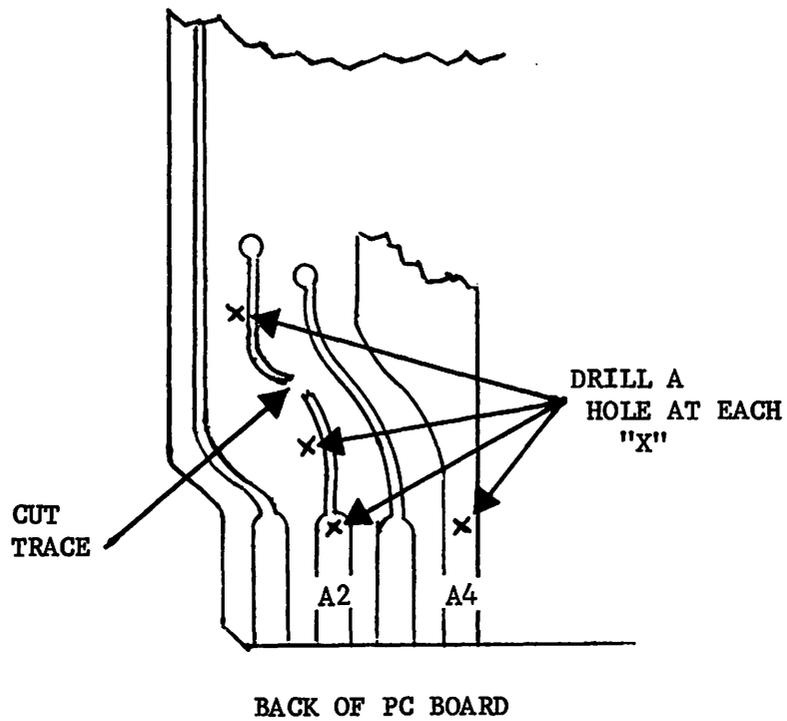

FIGURE 1
1. Drill four holes .041/.046 inches in diameter at points indicated on figure 1.
2. Cut the printed circuit trace as indicated on figure 1.